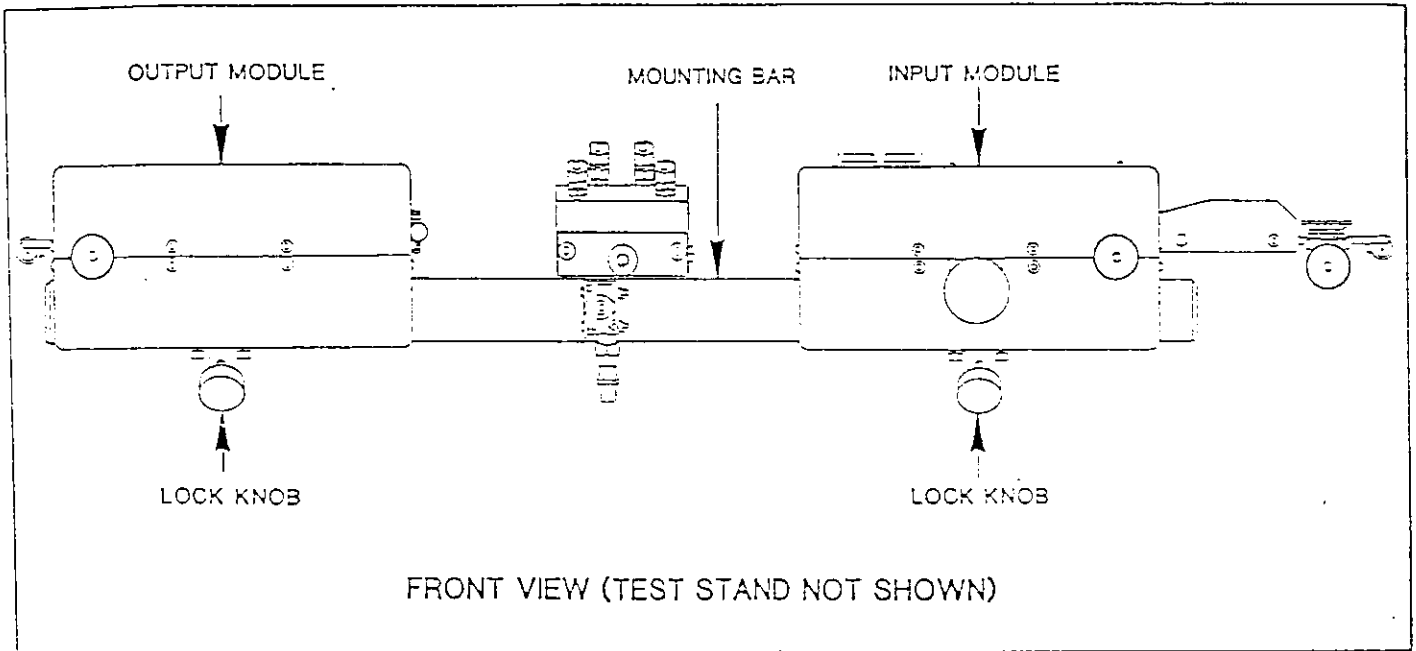

Figure 1-7
STEP 2: Place input and output modules on mounting bar as shown in Figure 1-7 and then finger tighten lock knobs.